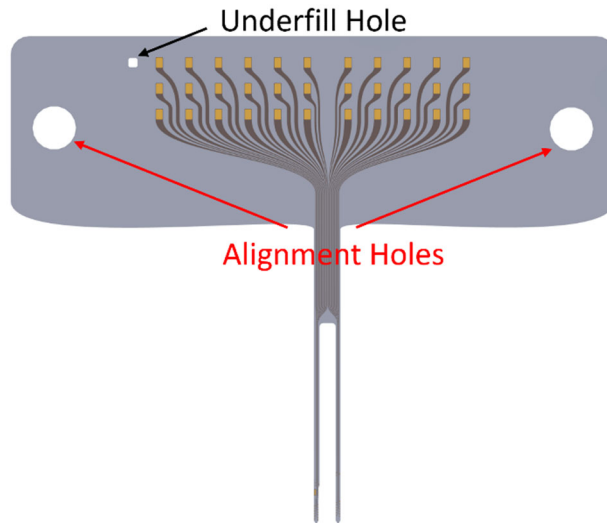
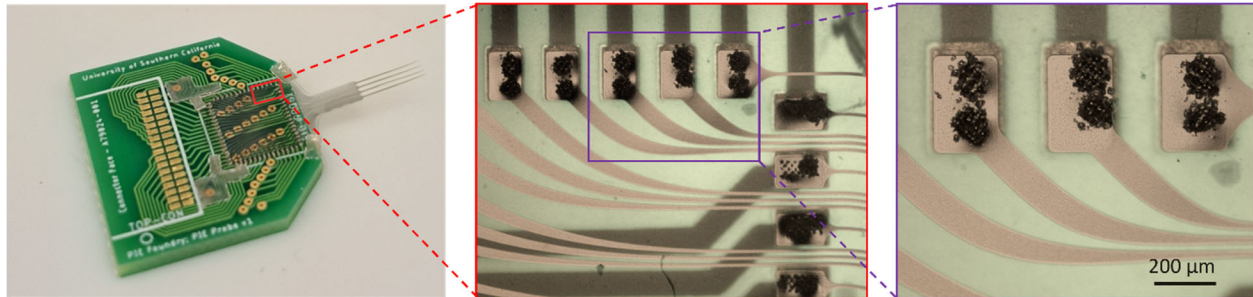

Figure 2.1. CAD model of PUB bonded probe with alignment holes and underfill ports.
Figure 4.1. pMEA bonded to PCB through PUB using manual alignment.
To facilitate PUB bonding, features for alignment (i.e., holes) and for underfill (i.e., ports) are recommended in the PCB and/or pMEA layout. Figure 2.1 shows a 2D CAD model for a pMEA with alignment holes and underfill ports.
1. The alignment holes (Figure 2.1) are designed to have a diameter of 1.26 mm, which comprises a clearance fit for a dowel pin of 3/64" (1.19 mm) diameter.
- b. Alignment of pads may be done using dowel pins in alignment holes – designed for both PCB and pMEA (Figure 2.1) – or manual alignment using temporary tape (Figure 4.1).
6. Ultrasonically bond each pad twice (Bond 1 and Bond 2). Bond pads should be visible through Parylene, as shown in Figure 4.1.